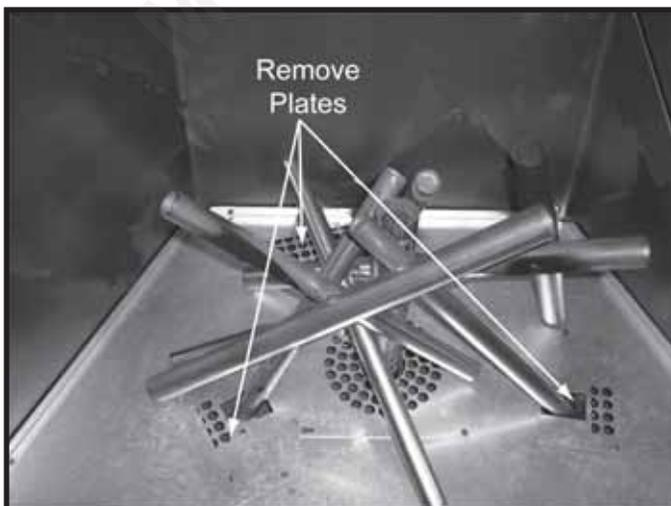

Figure 11.17 Remove Three Plates
- Remove three cover plates by removing two screws from each plate. See Figure 11.17.